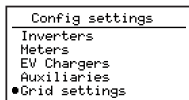

fig. 7: Config settings
- 4.1 Go back to the “Config settings” (fig. 7) with the  button, or navigate to it again if the menu has disappeared.